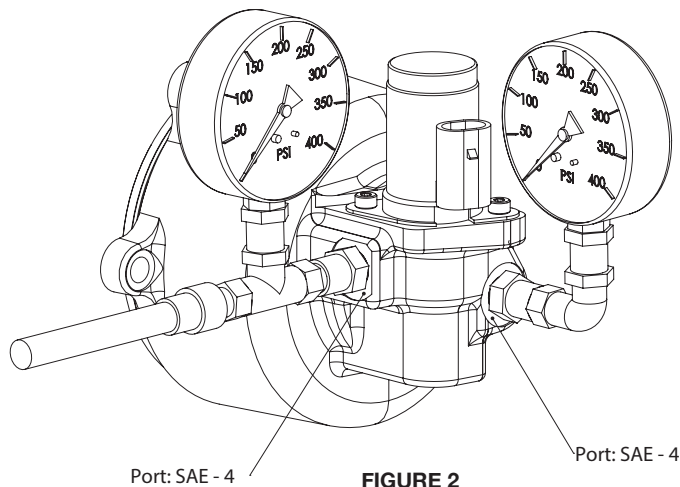

FIGURE 2
4. Remove the pressure switch from the FR6Q end cover and place a second 400 PSI pressure gauge in the pressure switch port as shown in figure 2 below.